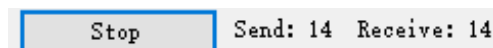

Figure 3
2. Click communication, observe until the times of “send” and “receive” are equal (as Figure 3), which means that the communication between PC and meter is normal. At this time, other parameters can be modified.